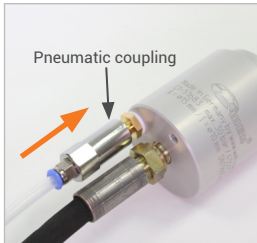

Figure 5
- ▶ Plug the pneumatic coupling (Pos. 4) onto the control - / bleeding valve (Pos. 3) and keep the coupling plugged in (*Figure 5*). When the pneumatic coupling is plugged in, a short pressure pulse is applied to the control - / bleeding valve. The elastic front seals (Pos. 7) or main seals (Pos. 8) are compressed and the connector creates a pressure-tight connection.